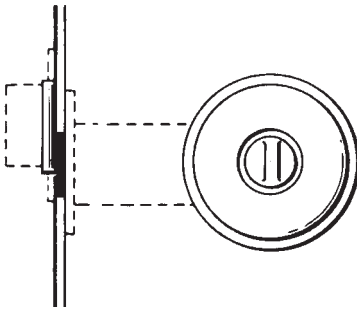

Figure 13.3 Has the door warped?
- Has the door warped (Fig. 13.3)?